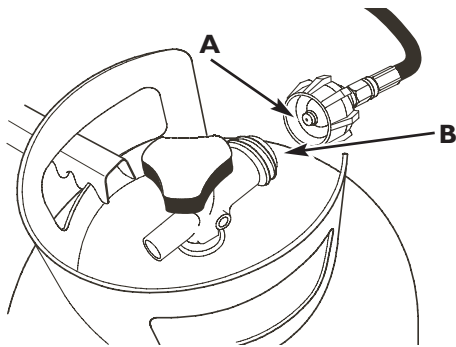

Figure 9 — Proper Connection Device Alignment
7. Insert the nipple of the left connection device (as you face the generator and LP fuel tanks) into the left LP fuel tank valve outlet (see Figure 9). Ensure it is fully inserted.
2. Disconnect the fuel hose from the LP tank by turning the large coupling nut **COUNTERCLOCKWISE** by hand (see Figure 9).